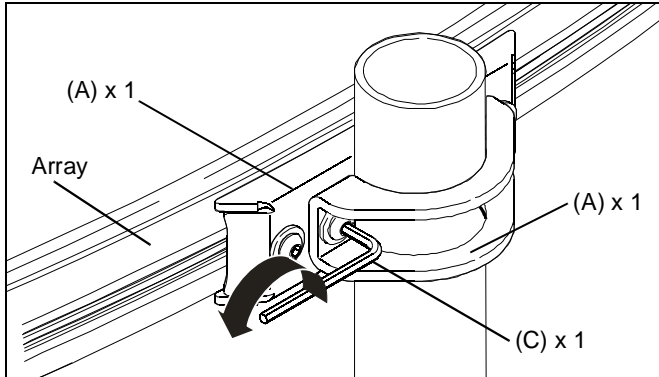
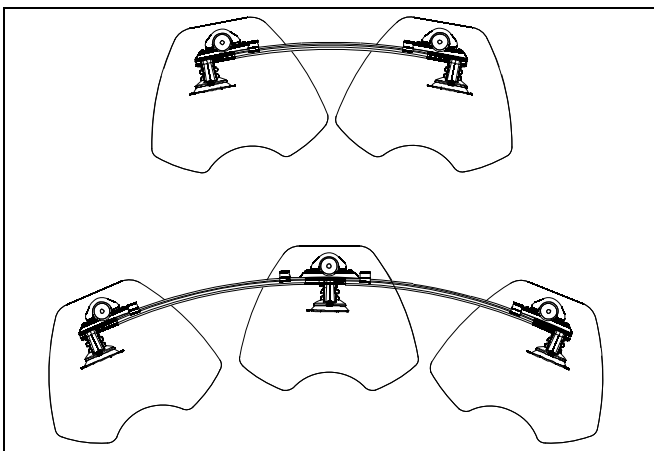

**Figure 7**
**Figure 8**
10. Align pole of new base assembly with new array attachment bracket. (See Figure 7)
11. Install two button head cap screws (F) and two flat washers (E) through pole clamp (B) and into array attachment bracket (A). (See Figure 7) and (See Figure 8)
12. Secure pole clamp (B) to array attachment bracket (A) using hex wrench (C) provided. DO NOT fully tighten at this time! (See Figure 8)